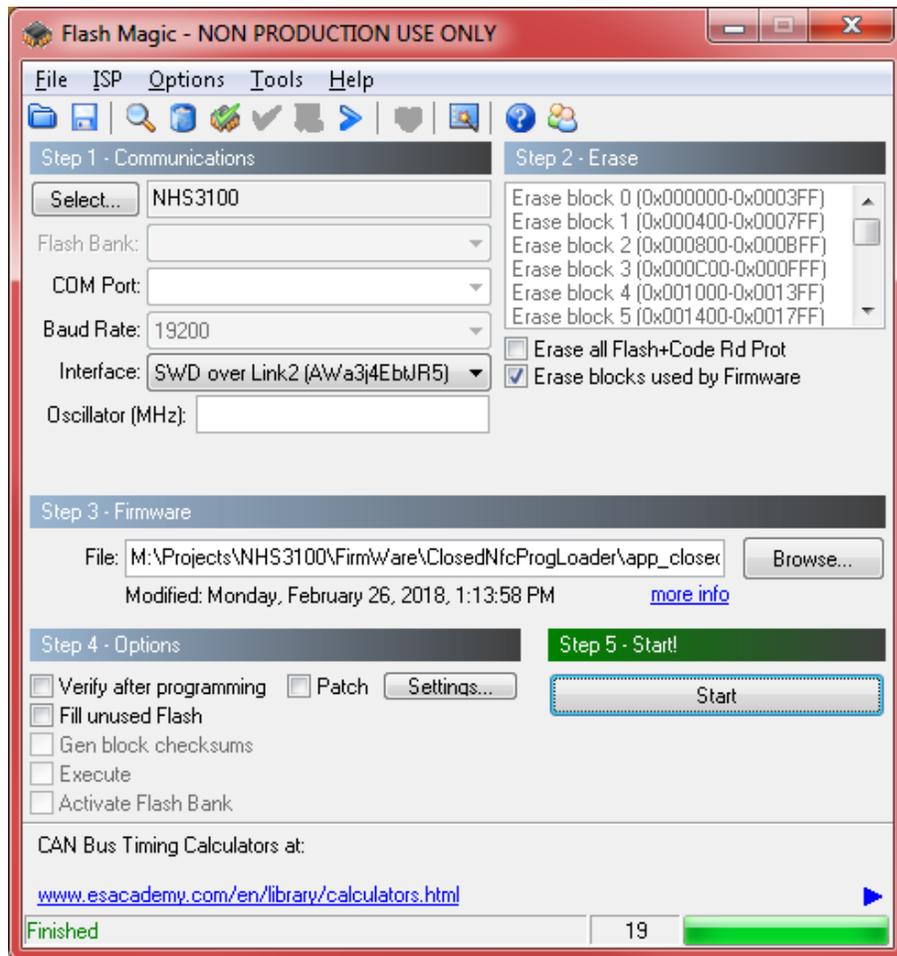

Figure 6. NXP Flash Magic Settings
4. Verify Flash Magic settings as shown in Figure 6. The hex file `app_closed_nfcprogramloader.hex` can be downloaded from the ASI website listed on the first page under Documentation.